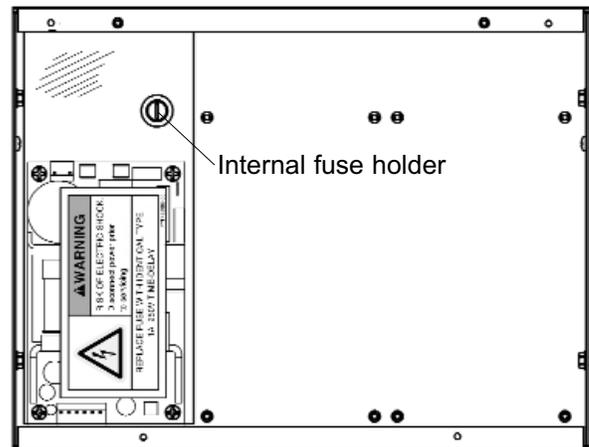

Figure 111: Master / Combo Panel Internal Fuse
2. If no indicator lights or LED displays are illuminated on front of alarm panel, first verify internal fuse is good (Figures 111 and 112). If fuse is good, continue this procedure.